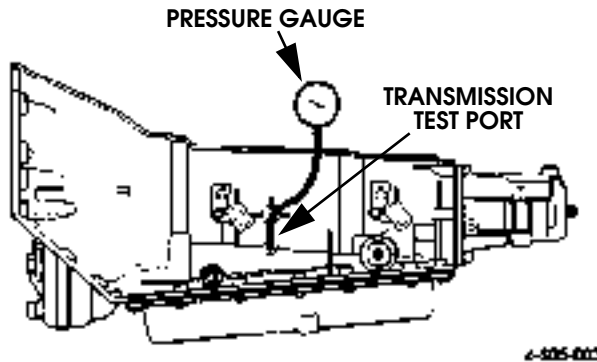

Figure 5-16: Pressure Gauge
3. Connect pressure gauge to transmission test port (Figure 5-16). Gauge must have 325-350 psi (2240-2413 kPa) capacity.